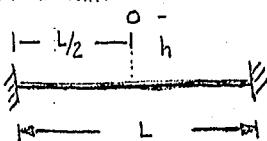

Fig. P1-2
1. Write the second-order differential equation for the bending of the column shown in Fig. P1-2 and use it to determine the critical load of the column. At its lower end the column is completely fixed. At the upper end the column is prevented from rotating, but free to translate laterally. (ans: $P_{cr} = \pi^2 EI/L^2$)